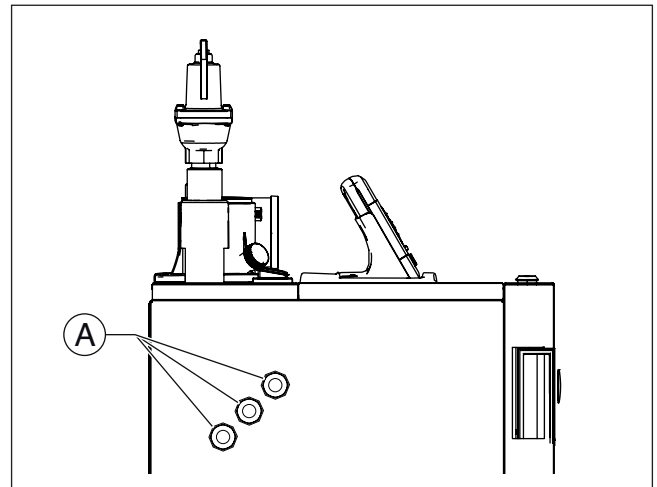

Fig. 17
The power supply cable can be inserted into the boiler using one of the three knock out holes (A) on each side as shown in Fig. 17.